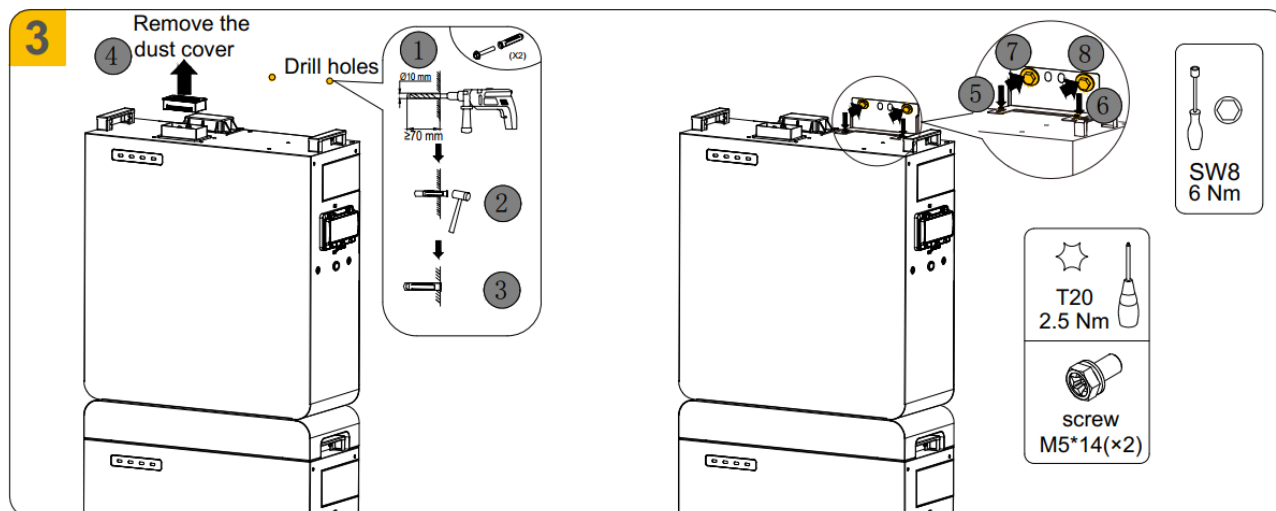

Figure 5-5 Battery top cover installation
1. Take out the top cover from the battery expansion package and place it on the 1st battery. Keep pressing the top cover, and secure four screws (two for each side) (tool: T20 screwdriver, torque: 2.5 N · m). Refer to step 1~5 of 1 in Figure 5-5.
2. Then take out the magnetic lids for stacking. Refer to step 6~7 of 1 in Figure 5-5.
3. Lift the 2nd battery onto the top cover and align the foot support of it with the hole on the top cover. Refer to step 5~6 of 2 in Figure 5-5.
4. Place the wall bracket onto the battery and align it with the positioning hole on the battery. Mark the drilling positions according to the hole of the plate and then remove it. Refer to step 11 of 2 in Figure 5-5.
5. Drill 2 holes on the wall with drill $\Phi 10$ and a depth greater than 70 mm, clean the holes and insert screw anchors into the drill holes. Then remove the dust cover. Refer to step 1~4 of 3 in Figure 5-5.
6. Place the wall bracket onto the battery and align it with the positioning hole on the battery. Secure the wall bracket on top of the battery (tool: T20 screwdriver, torque: 2.5 N·m). Refer to step 5~8 of 3 in Figure 5-5.